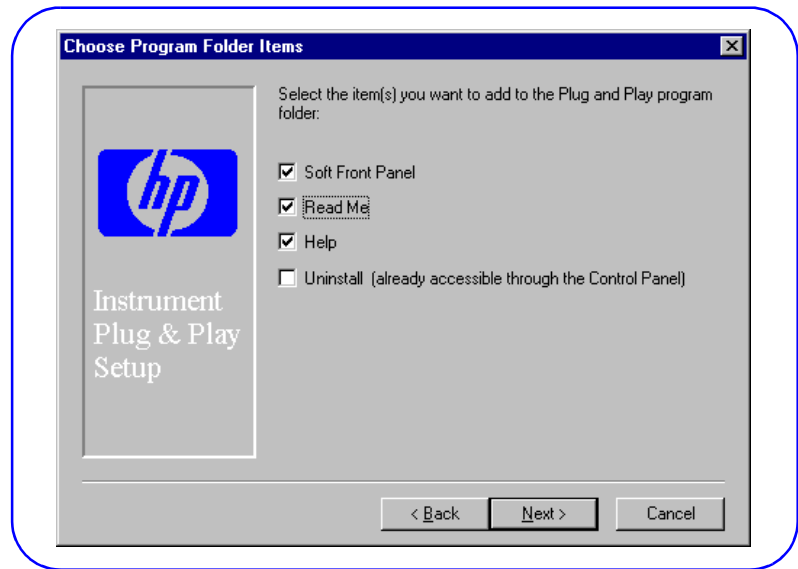

Figure 26. Choose Program Folder Items Screen
- 7 When the **Choose Program Folder Items** screen appears (see Figure 26), check the *Soft Front Panel*, *Read Me* and *Help* entries. Then, click *Next*. Follow the instructions to load the driver(s).